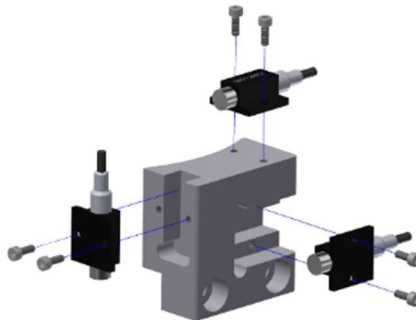

Figure 4-37. Instrument the T1 Accel Mount (SA572-S168) with three uniaxial accelerometers (SA572-S4)
- 4.3.7 Instrument the T1 Accel Mount (SA572-S168) with three uniaxial accelerometers (SA572-S4) using two M1.4 X0.3 X 4 SHCS per accel (Figure 4-37).